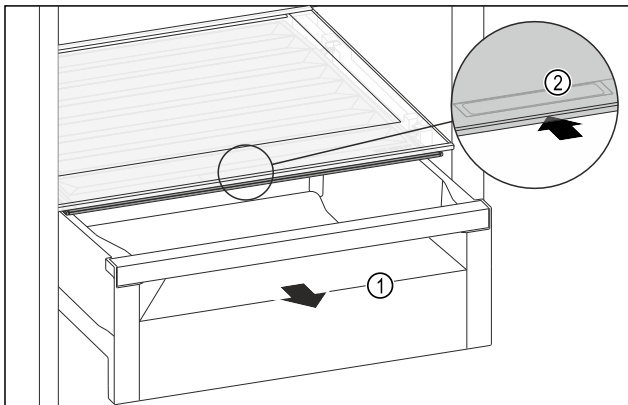

Fig. 122
- ▶ Pull out the drawer Fig. 122 (1).
- ▶ Grasp the recessed grip Fig. 122 (2) on the compartment lid and push the compartment lid backwards at the same time.